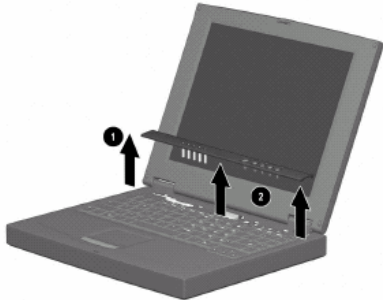

Figure 5-5: Removing the LED Cover
4. Lift up the left edge of the LED cover 1 (Figure 5-5).